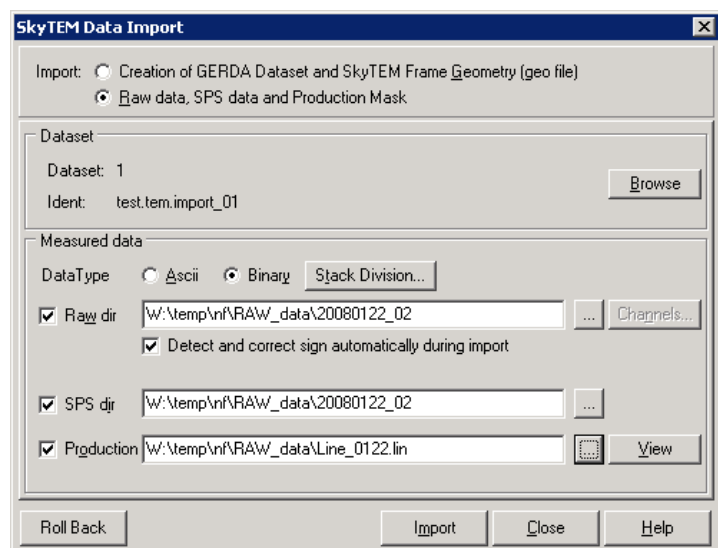

Figure 1.2 The SkyTEM Data Import window, section Raw data, SPS data...
- Highlight the Raw data, SPS data... radio button in the top of the SkyTEM Data Import window in figure 1.2.